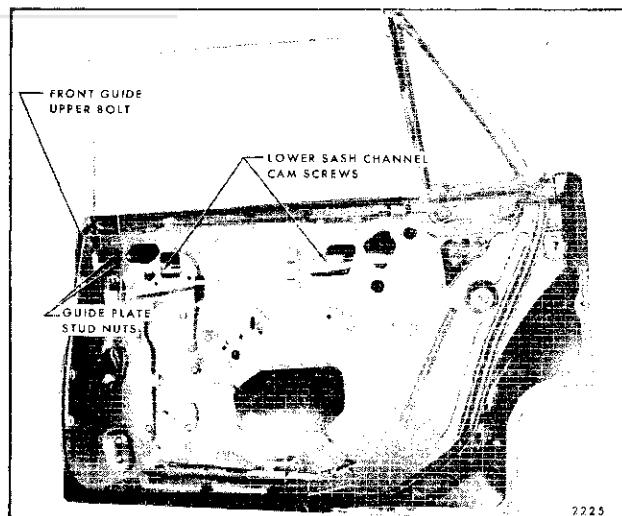

Fig. 6-96—Rear Door Window Removal —
3. Lower glass approximately 2" and remove lower sash channel cam attaching screws (Fig. 6-96).
- b. Front guide upper attaching bolt (Fig. 6-96).
2. To adjust door window fore-or-aft, loosen guide plate to lower sash channel attaching nuts (Fig. 6-96). Adjust window fore-or-aft as required and tighten nuts.